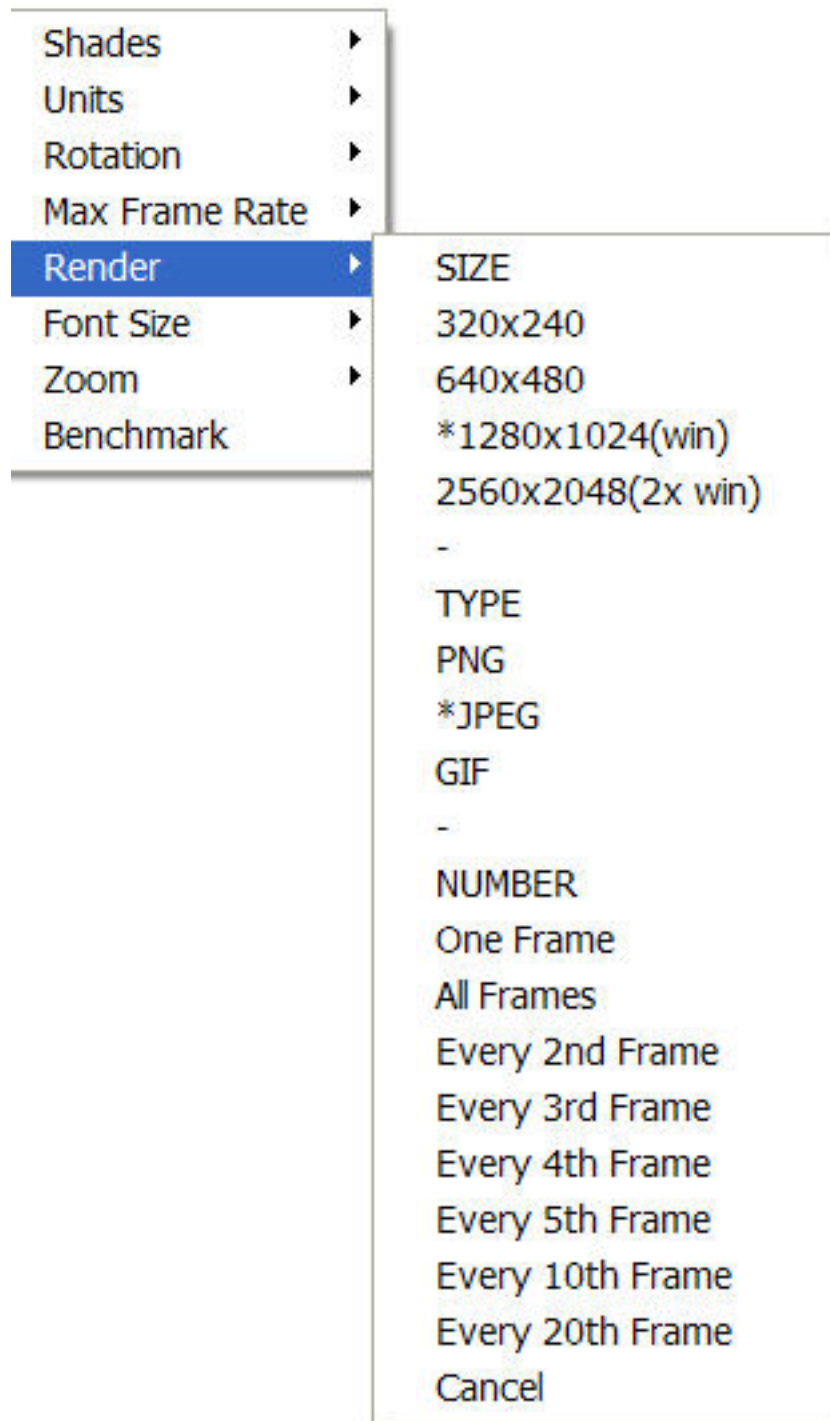

Figure B.7: Render Menu.
The `Render` menu, illustrated in Figure B.7, allows one to create PNG or JPEG image files of the currently displayed scene. The graphics library, GD 2.0.15, was used to create the rendered versions. GD 1.0 is documented in reference [9, Appendix 4]. GD 2.0.7 now creates images using *full color* allowing for more realistic scene representations eliminating the color banding that occurred with the previous version because of the limited number (256) of colors used to represent images. Due to patent disputes, GD 2.0.15 has dropped support for the GIF file format and uses JPEG or PNG instead.